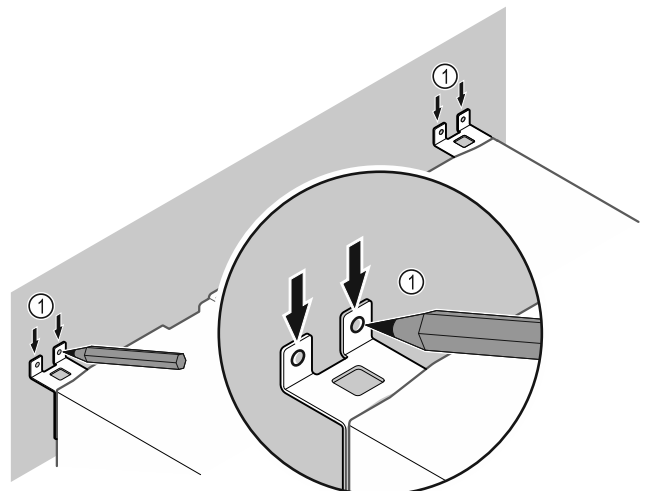

Fig. 67
- ▶ Make markings on the wall Fig. 67 (1).